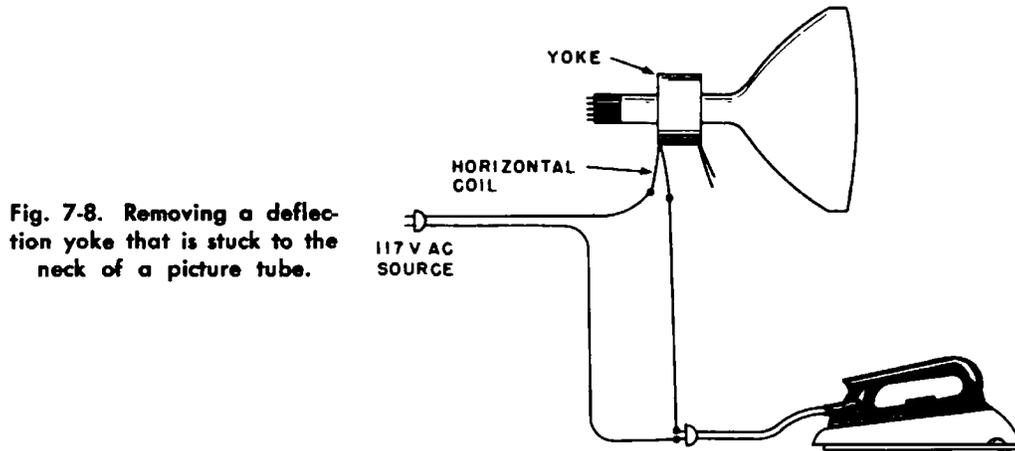

Fig. 7-8. Removing a deflection yoke that is stuck to the neck of a picture tube.
**DISCUSSION.** If no variable-voltage transformer is available to aid in the removal of the yoke, apply a 117-volt a-c potential to a series circuit composed of the horizontal deflection coils and an electric iron (or electric heater, etc.), as shown in Fig. 7-8. Again the current flowing through the coil will be sufficient to cause the yoke insulation to melt, so that the yoke can be removed in a very short period of time.